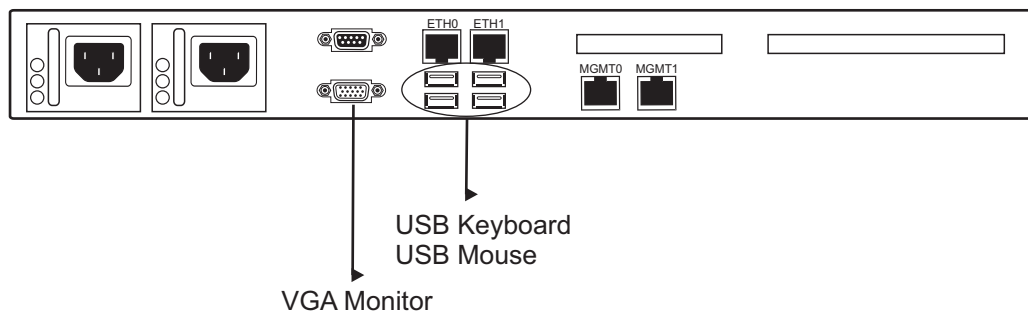

Figure 9.3 USB to DB9 Adapter
1. Connect a VGA monitor to the VGA port of the 7800-CTRL. Connect a USB keyboard to an available USB port on the 7800-CTRL. Do the same for a USB mouse See Figure 9.3 on page 61.